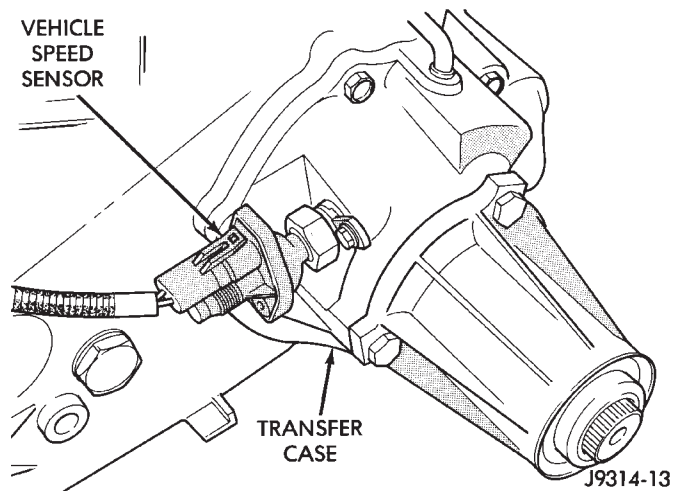

Fig. 14 Vehicle Speed Sensor—Typical
(22) Raise and support the vehicle.
(23) Inspect for pinched or leaking fuel tubes. Inspect for pinched cracked or leaking fuel lines.
(24) Inspect for exhaust system restrictions such as pinched exhaust pipes, collapsed muffler or plugged catalytic convertor.
(25) If equipped with automatic transmission, verify that electrical harness is firmly connected to neutral safety switch. Refer to the Automatic Transmission section of Group 21.
(26) Verify that the harness connector is firmly connected to the vehicle speed sensor (Fig. 14).